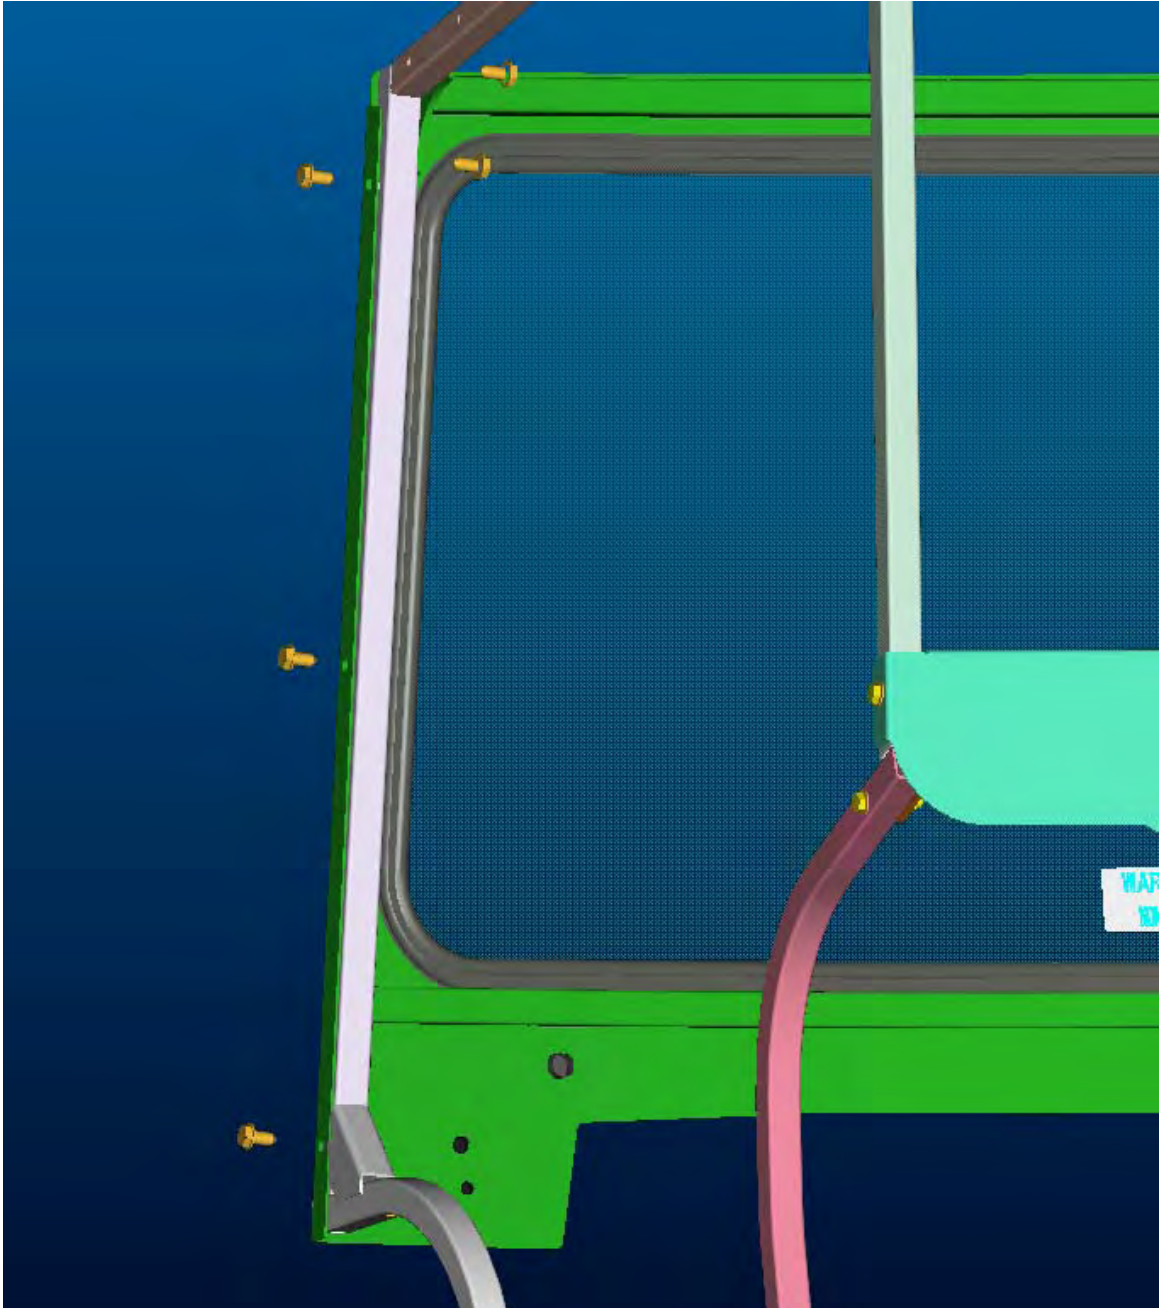

Figure 8
12. Install the front windshield assembly 4-14909 over each side frame post. Align the holes and secure with (10) ten 5/16" self-tapping screws. Torque to 20 ft. lbs. (27 N*m). See Figure 8.